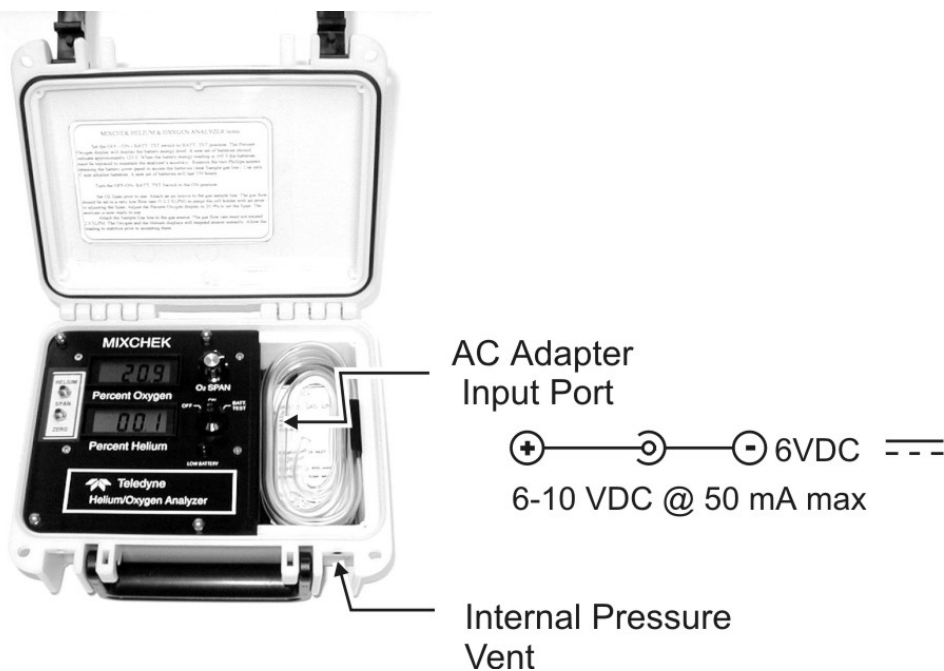

Figure 2-5: Power Adapter Port (Portable Model)
The portable model is powered from 4 C-cell batteries, which must be installed prior to placing the instrument in service. See Section 2.6. The portable unit can also be powered using the optional 6 VDC power adapters, P/N A558 (US) or A555 (CE). When using the adapter, insert the jack into the port on the side of the front panel near the ON/OFF/ BATT TEST switch as shown in Figure 2-5. This figure also shows the internal pressure vent port which allows the instrument to vent and return to atmospheric pressure before the lid is opened.